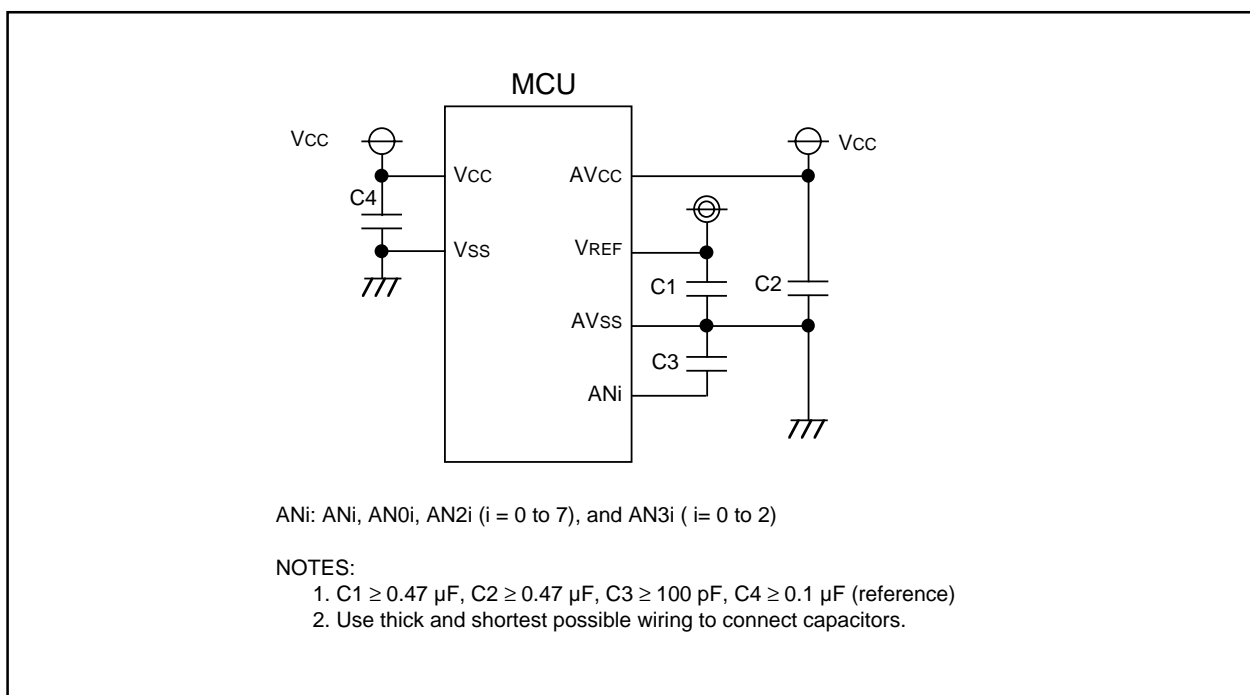

Figure 20.5 Use of capacitors to reduce noise
3. To prevent noise-induced device malfunction or latchup, as well as to reduce conversion errors, insert capacitors between the AVCC, VREF, and analog input pins (ANi, AN0i, AN2i(i=0 to 7)) each and the AVSS pin. Similarly, insert a capacitor between the VCC pin and the VSS pin. **Figure 20.5** is an example connection of each pin.